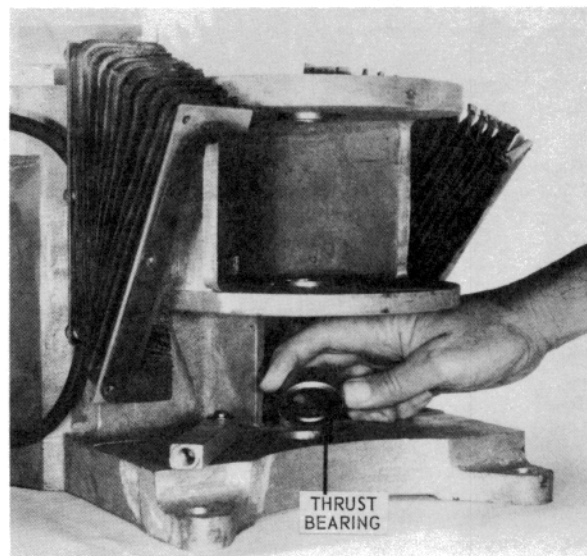

Figure 58 — Thrust Bearing Orientation when Reinstalling
- 4.1 Inspect the thrust bearing for wear or damage. Replace if necessary. If thrust bearing is contaminated, wash in clean solvent to remove old grease and contaminants. Dry with a clean lint free cloth and regrease (recommended grease — Keystone Moly 81 Light). Reinstall the bearing oriented as in Figure 58.